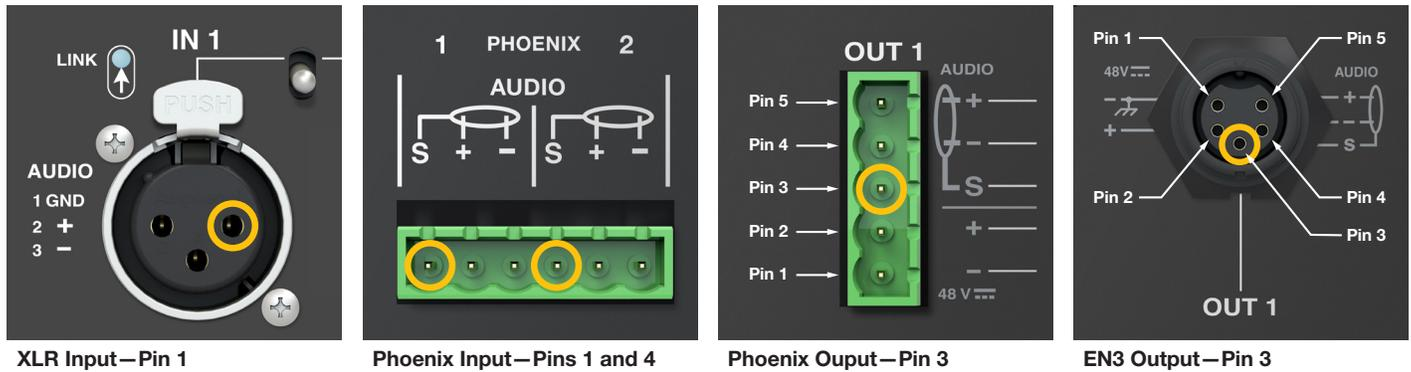

Figure 9: GND or Audio Shield Locations on Power Supply Input and Output Connectors
3. **GND** or **Audio Shield** of the **Input Connector** and **Audio Shield** of the **Output Connector** (Figure 9).